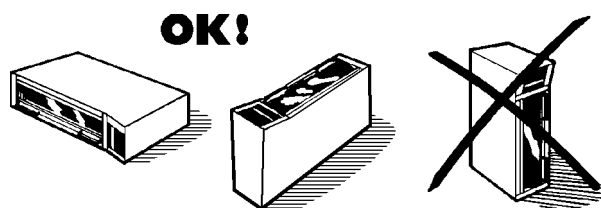

Fig. 16 Never put an oven section down on its side!
- Do not put down or carry an oven section with the short side down (Fig. 16). The oven has no reinforcements for this type of strain, and there is a risk for deformation. If the section is put down on the back-piece, make sure that the underlayer is flat. A spot load such as a door threshold can easily crack the back-piece. Observe care with protruding parts such as the damper or the connection head of the element in the distribution box.